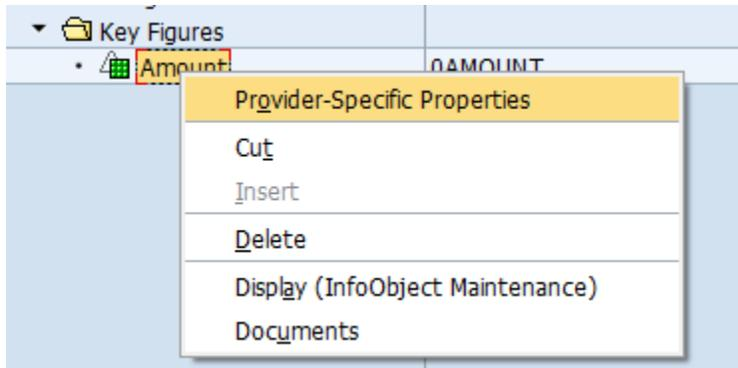
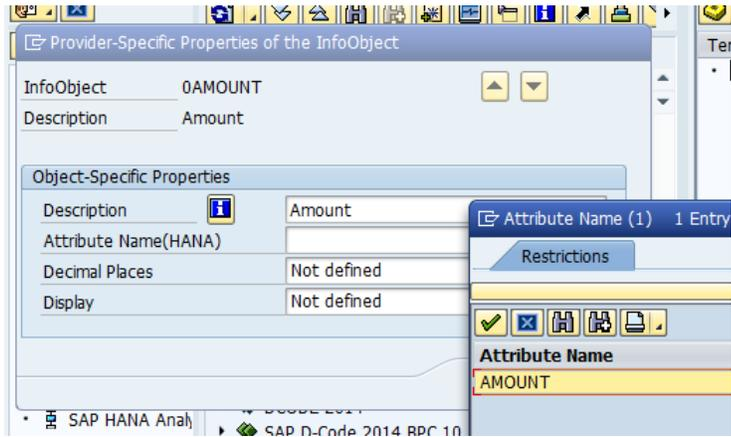

Figure 29 – Provider specific properties
Figure 30 – Mapping table attributes to infoobjects
2.7 **Map to Hana table fields** – We now have to map each characteristic and key figure to the Hana table fields. In order to do that, click on each characteristic and key figure and right mouse click provider specific properties. Figure 29 shows an example of how this can be done for 0AMOUNT. Figure 30 shows how we can select the table field Amount from the drop down for attribute name.